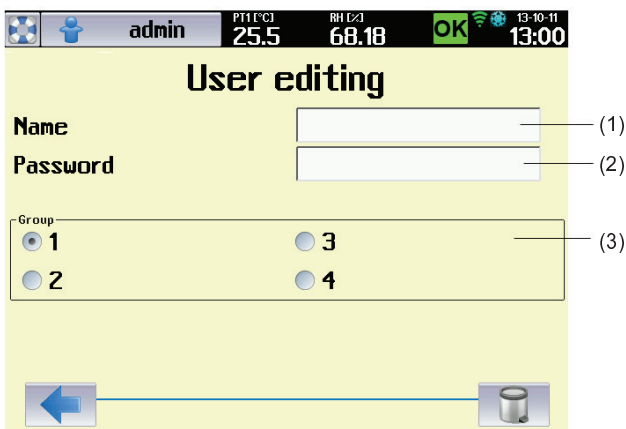

Fig. 19
- This button displays a list of all users. See Fig. 18. Login names and passwords may then be allocated for individual users (Fig. 19).
- (1) Button for defining administrator password.
- (2) Buttons for defining operator names and passwords.
- Buttons 2 – 100 are used to define operator login names and passwords. See Fig. 19.